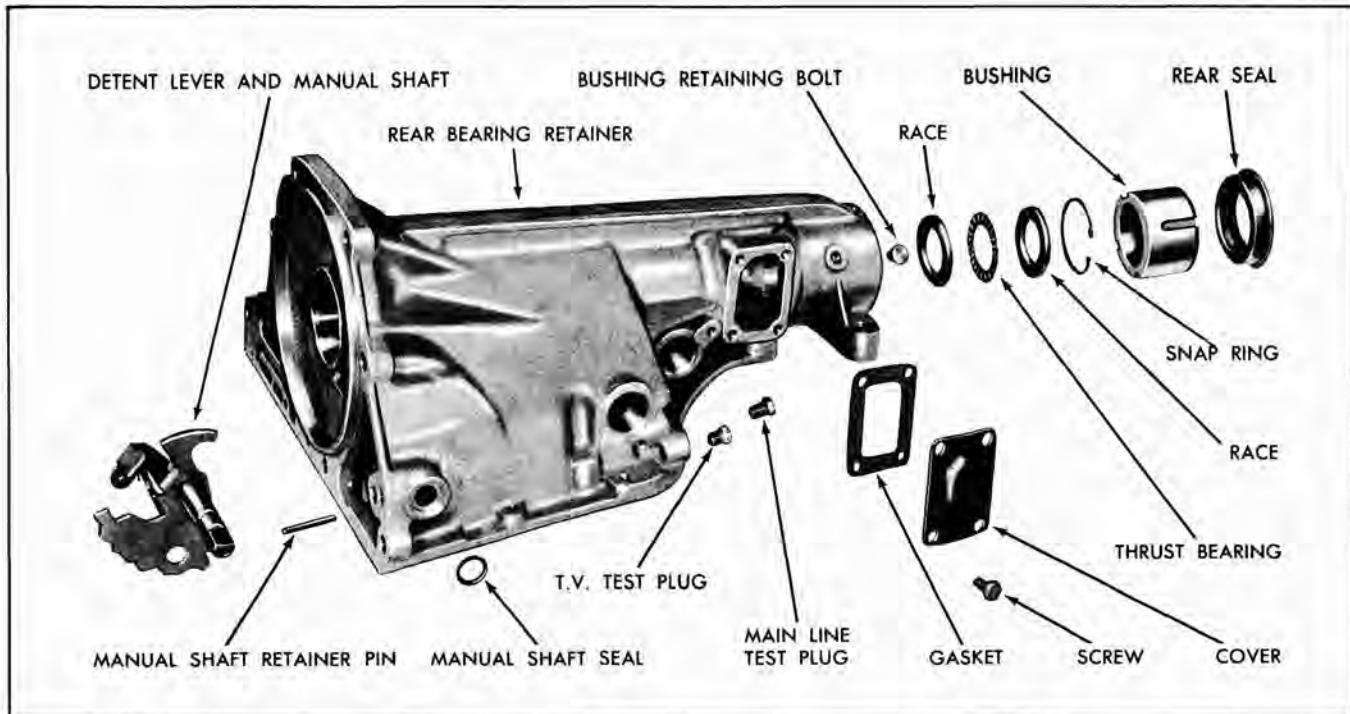

Fig. 104 Rear Bearing Retainer
4. Remove the rear thrust bearing race to rear bearing retainer truarc snap ring through access hole in retainer (Fig. 104).